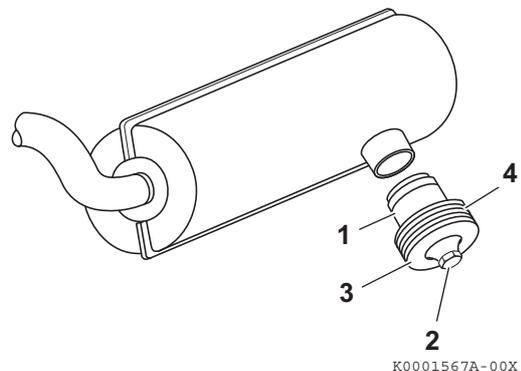

Figure 2
Clean the spark arrestor (**Figure 2, (1)**) as follows:
1. Remove the locknut (**Figure 2, (2)**), end cap (**Figure 2, (3)**) and diffuser discs (**Figure 2, (4)**) from the spark arrestor.
3. Install the diffuser discs (**Figure 2, (4)**) and end cap (**Figure 2, (3)**) on the spark arrestor (**Figure 2, (1)**) and secure with the locknut (**Figure 2, (2)**).